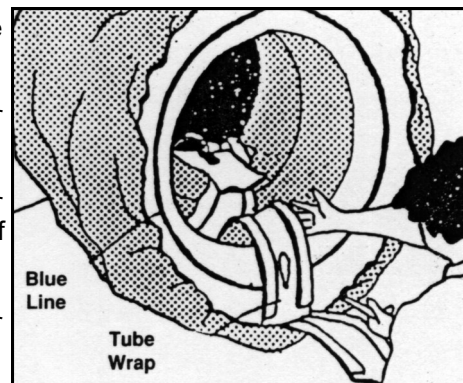

Figure 3
3. Turn barrel on its side and make an initial adjustment of the tubes and cover. Align the cover to be equal distant from the blue line on the tube and check both ends and adjust the tube wrap. (See Figure 3).